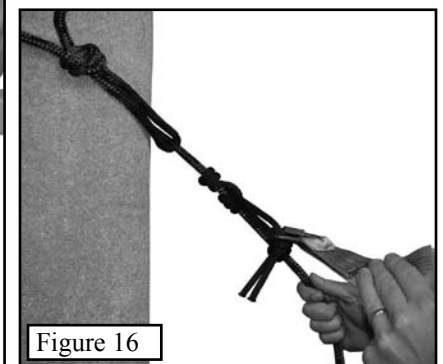

Figure 16
Step 1. Now that your platform and seat section are attached to the tree, you are ready to climb. It is **MANDATORY** that you use a safety harness as you climb. **Be sure to read the safety harness instructions for proper use of your safety harness.** Simply attach the safety line to the tree above the seat climber and secure it to the harness for climbing as shown in **Figure 16**.